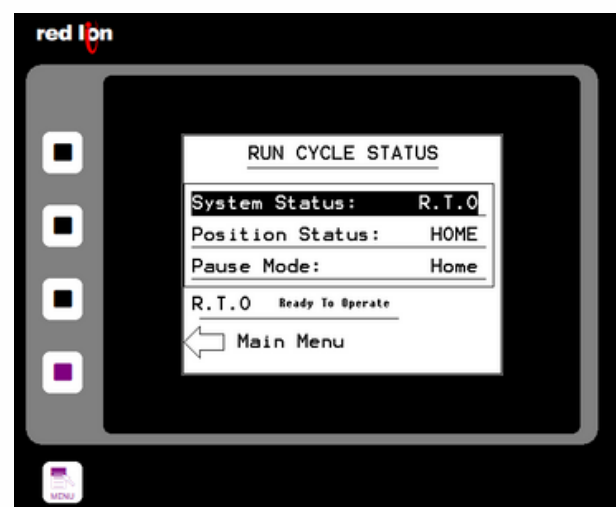

Figure 6.13. Run cycle status screen showing ready to operate status.
- a. If the traveller and capsule are in the HOME position, then positive confirmation is sent to the PLC, initiating machine status R.T.O. (ready to operate) (Figure 6.13).
- 2 The UBS is ready to operate (R.T.O.) (Figure 6.13).